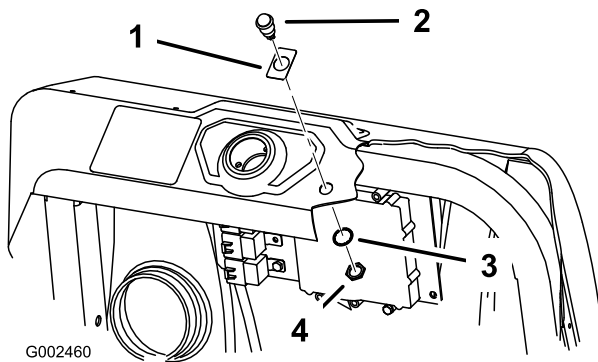
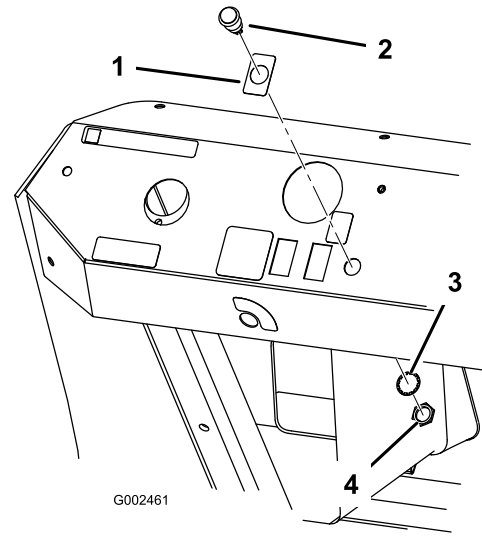

Figure 12
Figure 13
1. Install decal 94-8582 over the light hole in the dash (Figure 12 for the Multi Pro 1200 and 1250 and Figure 13 for the Multi Pro 5600 and 5700).
3. Install the light in the dash and secure it using the washer and nut (Figure 12 or Figure 13).